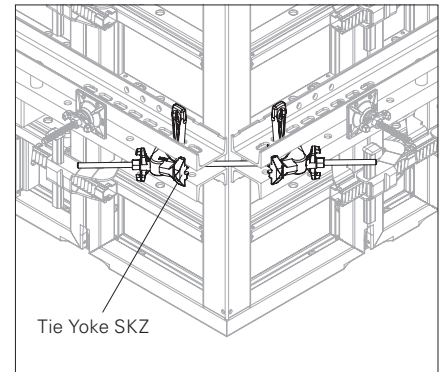

Fig. D2.07c
The outside corner can also be implemented with the Tie Yoke SKZ (article no. 024210) instead of the waler stop (86) and anchor tie yoke (87). For assembly, see the Instructions for Assembly and Use for VARIO GT 24 Girder Wall Formwork. (Fig. D2.07c)